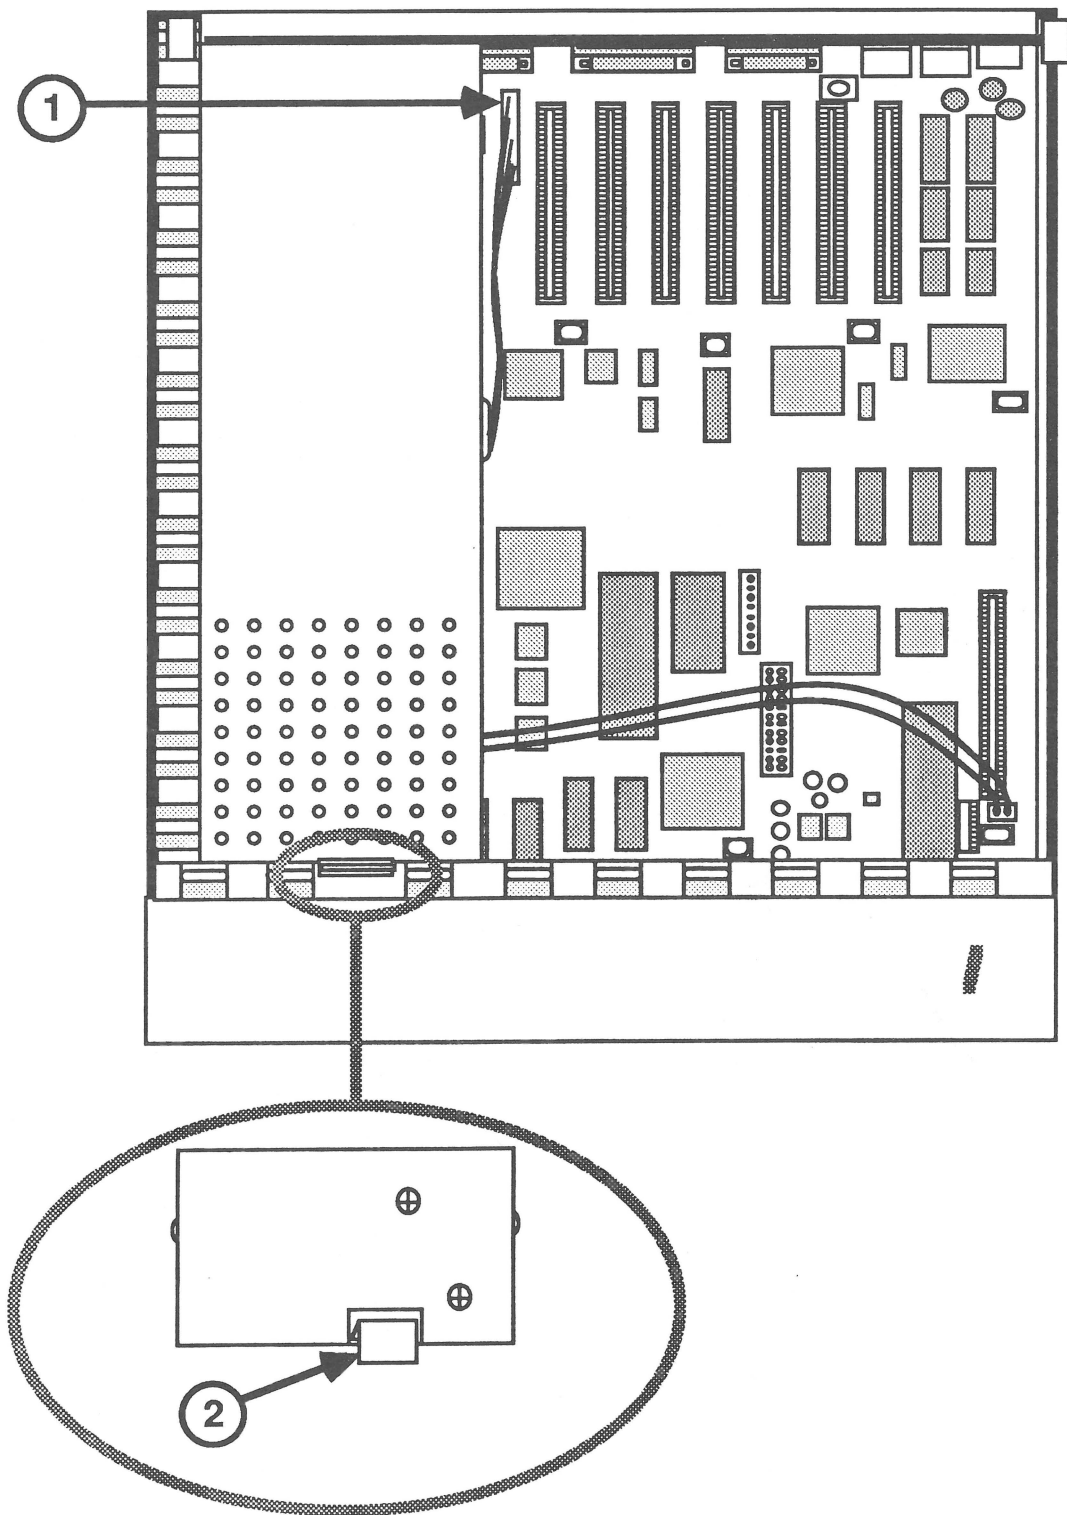

FIGURE 2
2. Locate and disconnect the power supply cable (see Figure 2, #1).
3. Locate the tab that holds the power supply in place (see Figure 2, #2).
2. Lower the power supply into position so that the tab in the front clicks into place (see Figure 2, #2).
3. Reconnect the power supply cable (see Figure 2, #1).